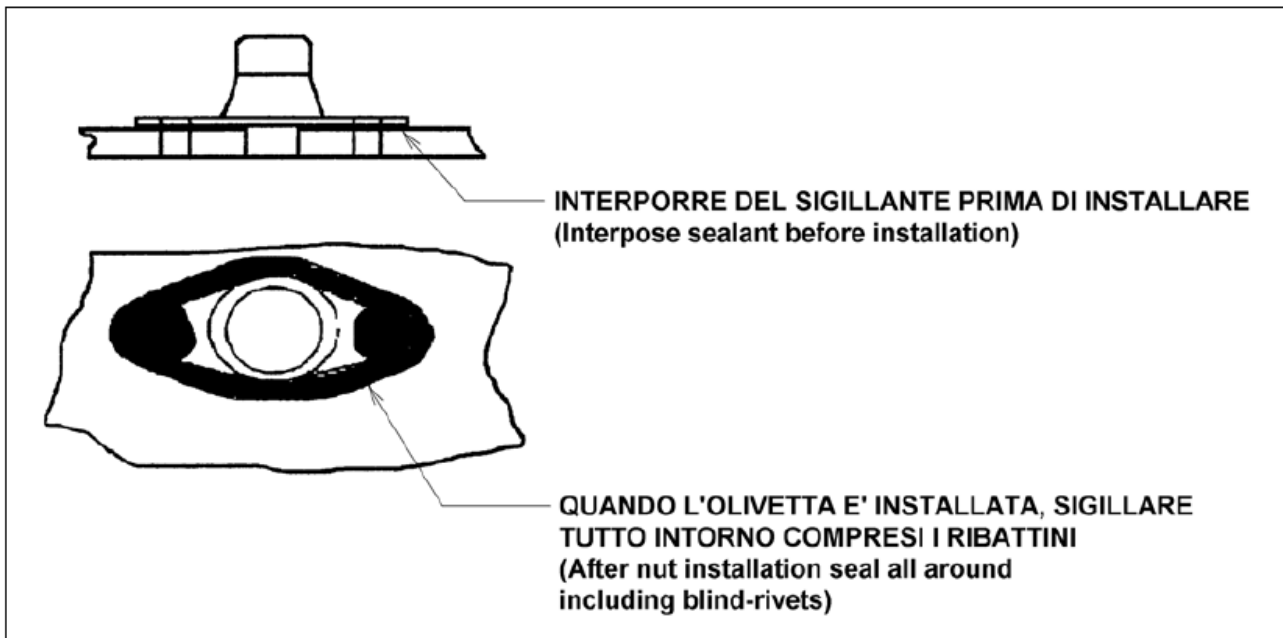
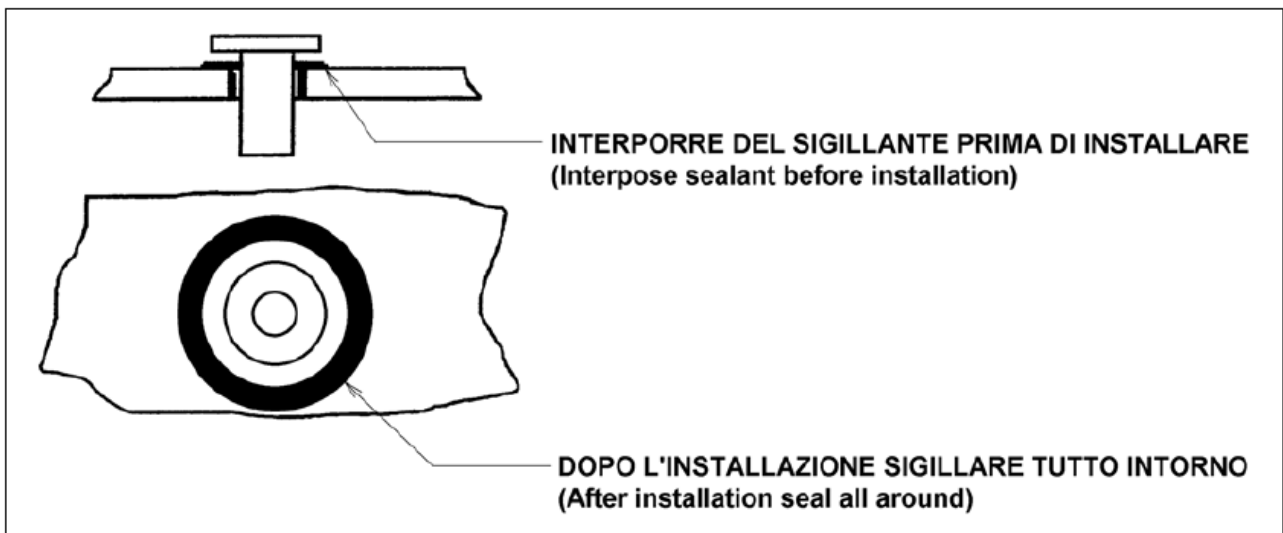

Figure 14:Anchor nut sealing
Figure 15: Rivet nut sealing
- Install nut or rivet-nut and perform the peripheral bead as shown in Figure 14 and Figure 15.